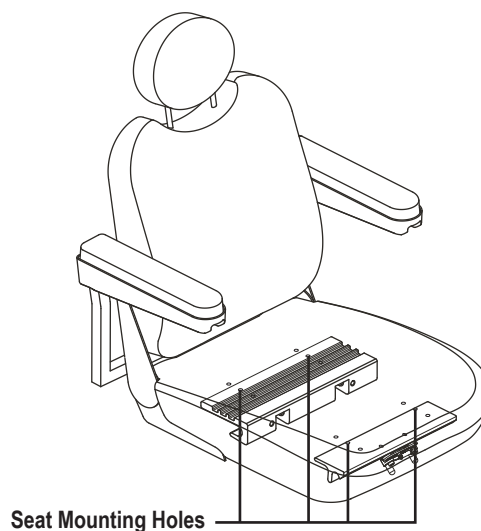

Figure 10. Seat Position Adjustment
6. Reposition the extrusions on a different set of mounting holes. You must move both extrusions the same number of holes either forward or backwards. **See figure 10.**